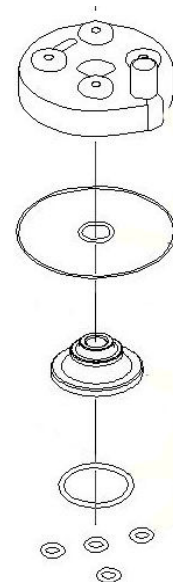

Figure 33
- Install O-RINGS as shown in figure 33.